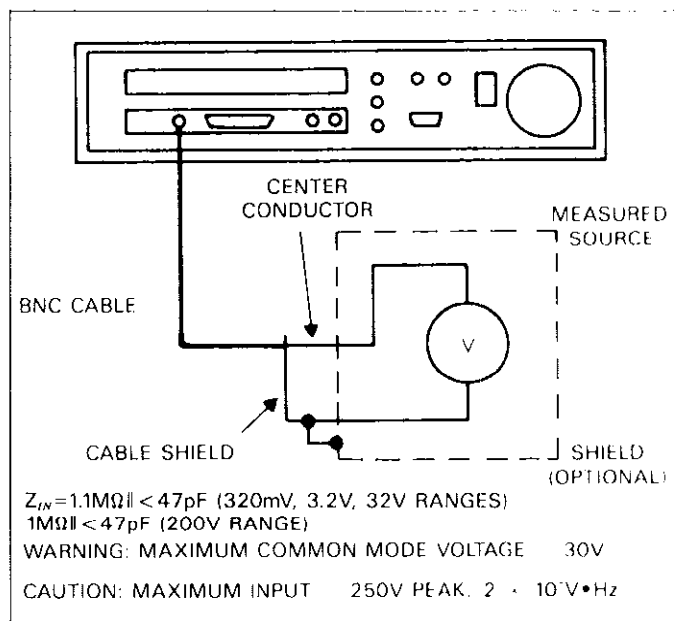

Figure 2-8. Basic Input Connections
6. Connect the other end of the cable to the voltage source to be measured, as shown in Figure 2-8. Remember that the cable shield is connected to input common, and must not be floated more than 30V RMS above chassis ground.